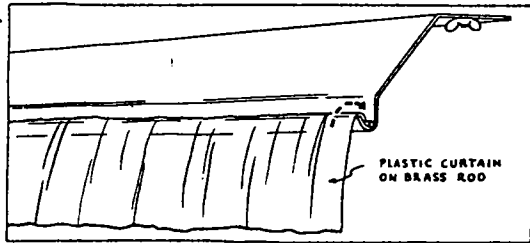

FIG. 12
1. Remove the cube chute front and its protective gummed paper covering. See Fig. 12.
9. Replace cube chute and harvest rack, and see that fountain field is in position as illustrated (See Fig. 12)
16. Install splash curtain (Fig. 12) and replace cube chute cover with clips furnished. Bottom of curtain should just touch wire rack.
9. Plastic curtain must be installed to prevent loss of cooled water and the resultant lowering of ice-making capacity. See Fig. 12. Curtain should just touch harvest rack. If curtain is too short water will splash out and down cube chute to bin. If curtain is too long, water runs down rods of harvest rack into cube chute and into bin.
## REMOVING CUBE CHUTE (See Fig. 12)
#### **REMOVING AND CLEANING BRADY WATER PUMP (Figs. 12, 13 and 14)**